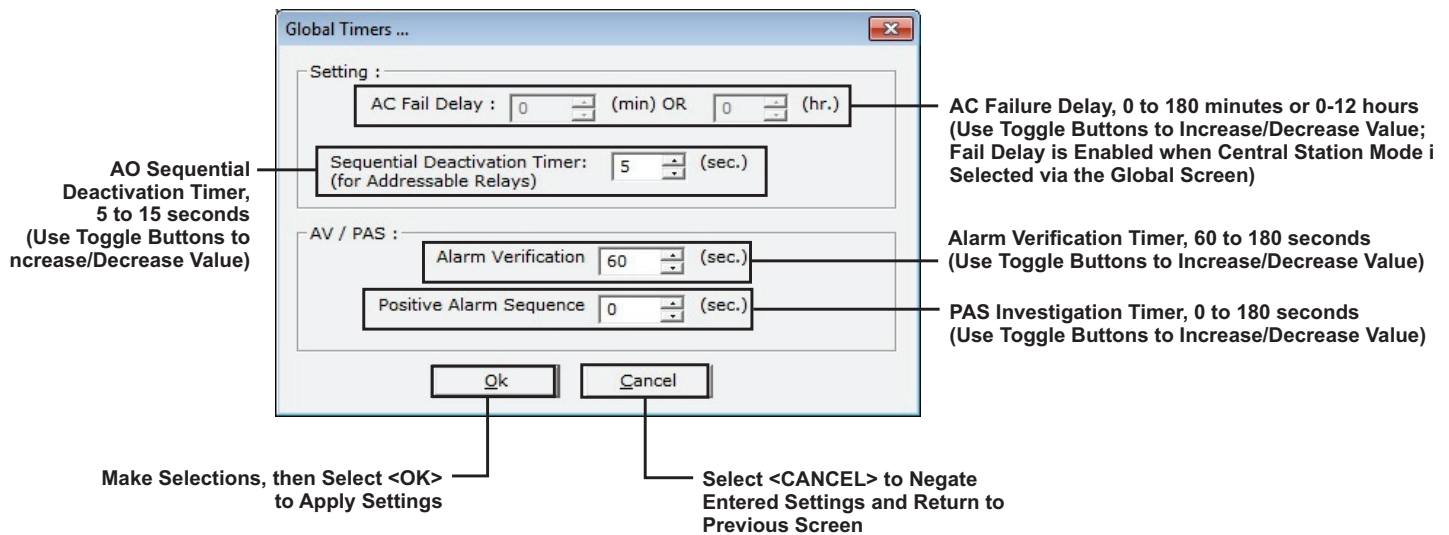

Figure 2-46. Global Timers Screen
1. Select the **<Timers>** button; Figure 2-46 displays.